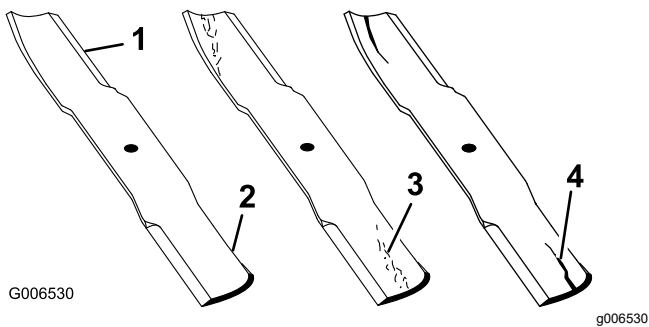

Figure 72
1. Inspect the cutting edges (Figure 72).
4. If you notice any cracks, wear, or a slot forming in this area, immediately install a new blade (Figure 72).